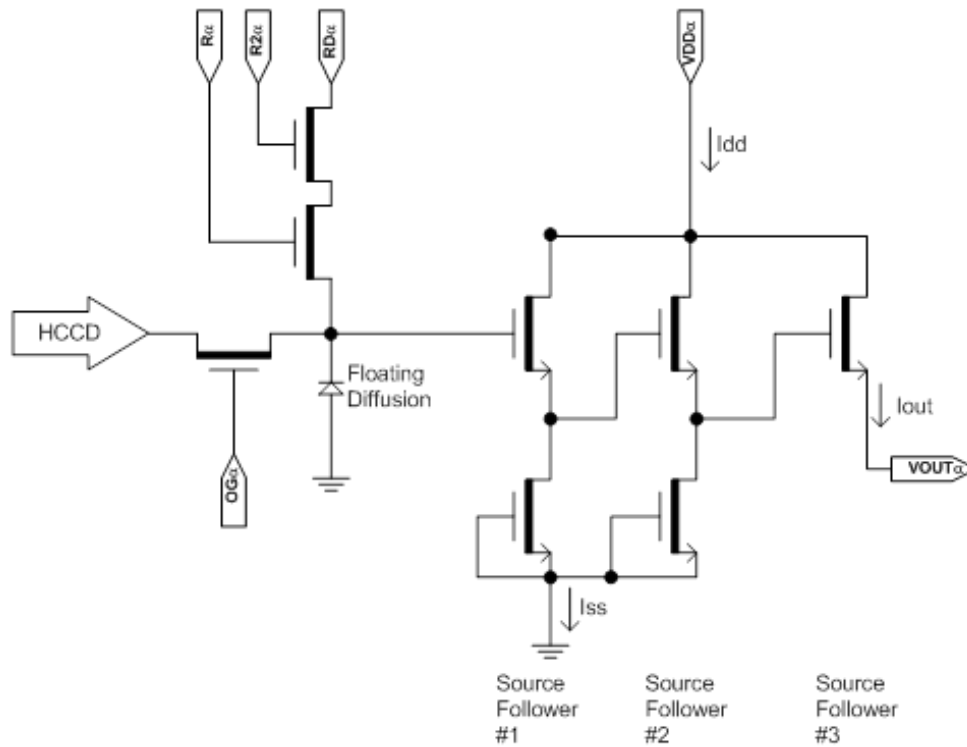

Figure 17: Output Amplifier – showing dual reset pins
2. The maximum DC current is for one output. I_{dd} = I_{out} + I_{ss}. See Figure 17.